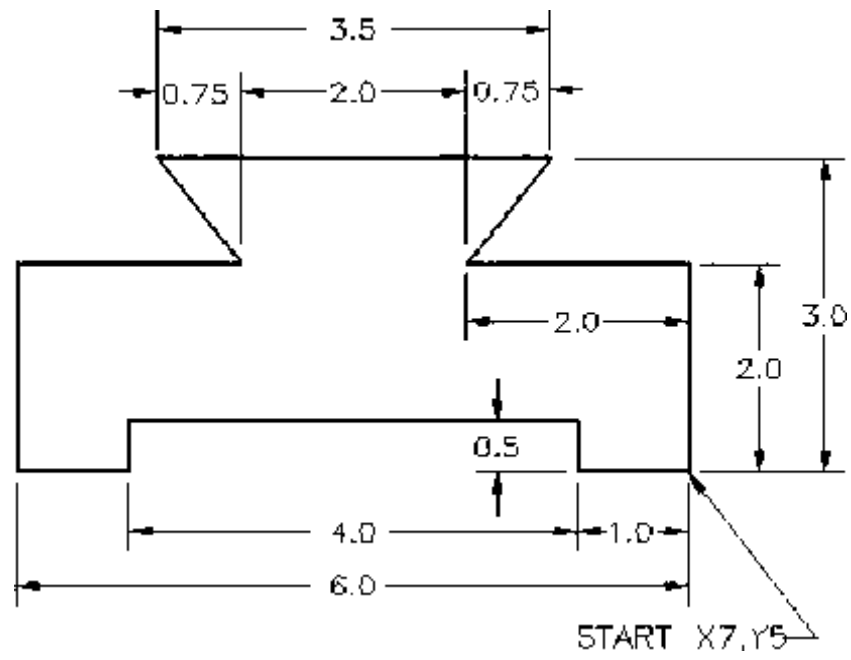

**Fig 1.3**
**Hints for Practice Fig 1.3**